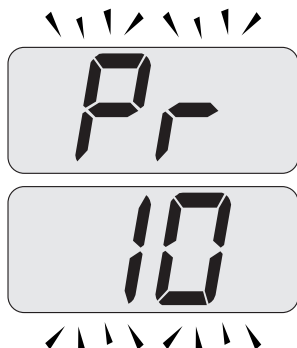

Fig. 8.24
- Scroll the various parameters using keys 13 or 14 until the letters **Pr** that alternate with code **10** are displayed on the LCD display, indicating that "parameter 10" (Fig. 8.24) has been activated.
- Press keys 12 and 13 (Fig. 8.22) at the same time to exit without changing the value (return to the parameters list Fig. 8.24).